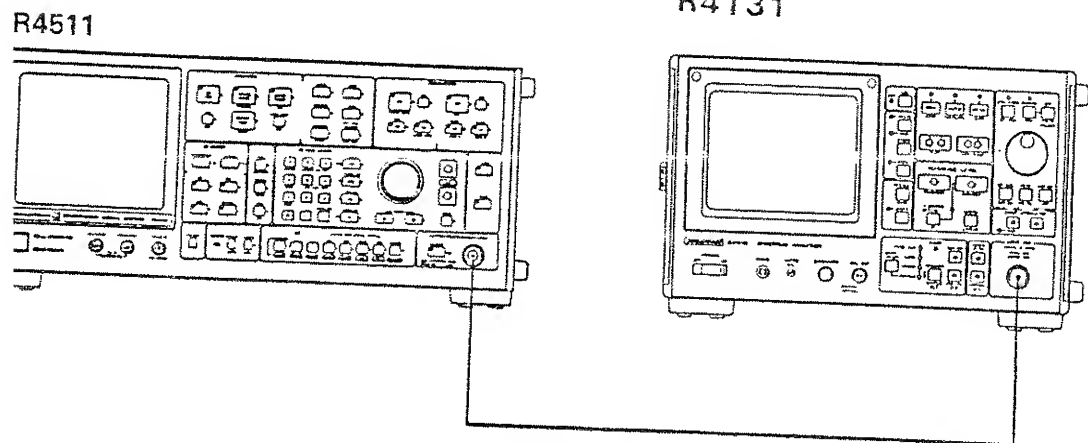

Figure 11-14 Resolution Bandwidth Selectivity Test Setup
Set the synthesized signal source to 200 MHz (CW), -10 dBm. Connect the spectrum analyzer and the synthesized signal source to each other as shown in Figure 11-14.